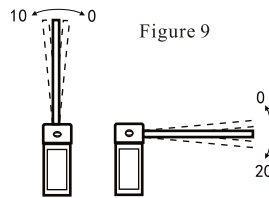

Figure 9
7.2.6.6. Vertical or horizontal fine adjustment, see Figure 9.